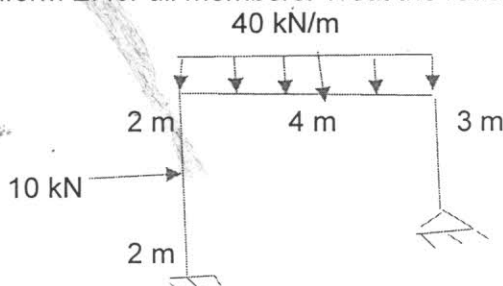

Fig. 3
3. Analyse the rigid joint frame shown in Fig. 3 by flexibility method. Take uniform EI for all members. Treat the reactions at the hinge as redundant.